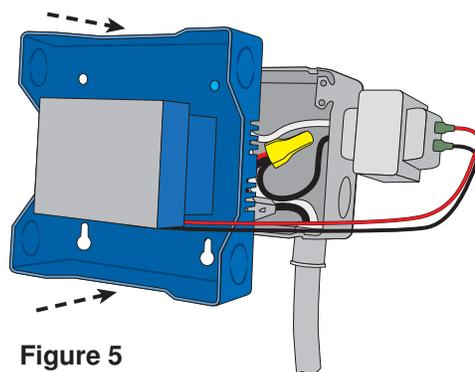

Figure 5
1. Mount the House Control onto the electrical box, ensuring all pump wiring is neatly tucked inside the box. See Figure 5 on the next page.